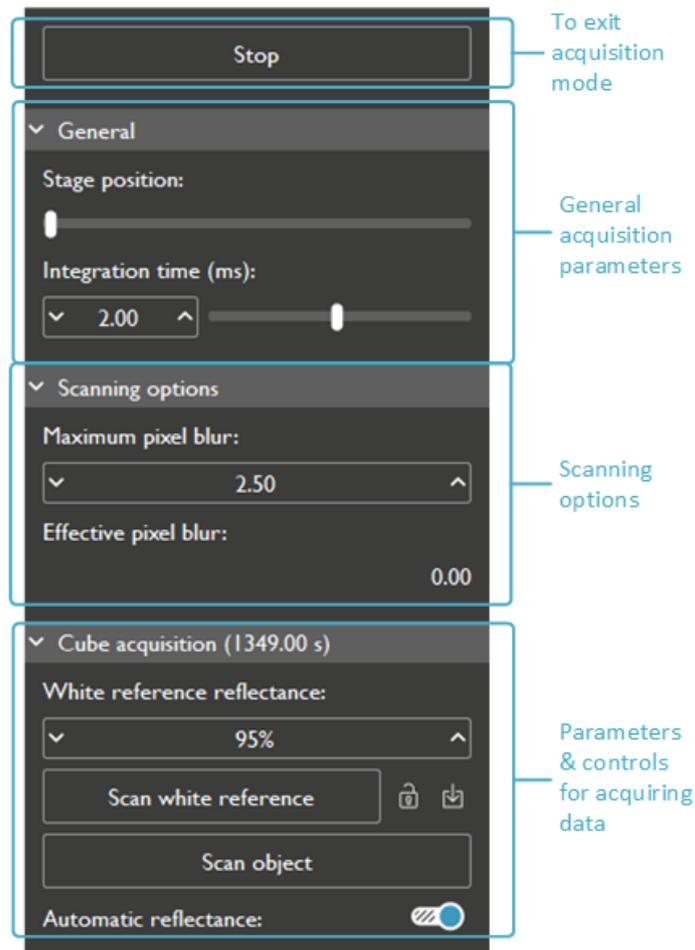

Figure 63 Control and configuration panel in the acquisition mode
Figure 63 shows the different elements available in the Control & Configuration panel.
- *Multiple object scans can be acquired with the same white reference. The software temporarily stores internally the white reference after it is acquired. This temporary copy is maintained until the user exits acquisition mode by clicking “Stop” (see Figure 63) or a new white reference is acquired.*